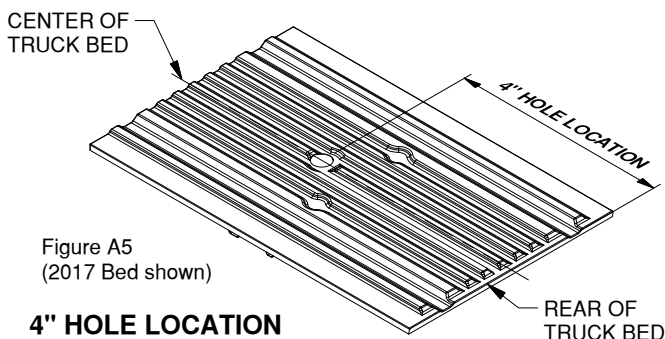

Figure A5
9. **Mark the 4" hole location.** Using a tape measure hooked over the rear edge of the bed (at tailgate end), measure the location for the hole as shown in Figure A5. Next, locate the center of the bed by measuring the distance between the wheel wells and dividing by two. The center of the hole will be at the intersection of the center of the bed and the first distance measured.